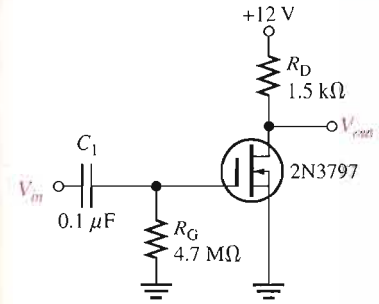

FIGURE 8–29
▲ FIGURE 8–28
The basic design for one stage of a MOSFET amplifier using a 2N3797 is shown in Figure 8–29. You are to evaluate it to determine if it can be used in a multi-stage amplifier to provide the same voltage gain as the bipolar version.
- Using the data sheet in Figure 8–30, determine the minimum and maximum dc drain-to-source voltages. Remember, for a zero-biased D-MOSFET, the drain current equals I_{DSS} .
- Using the data sheet in Figure 8–30, determine the minimum and maximum voltage gains.